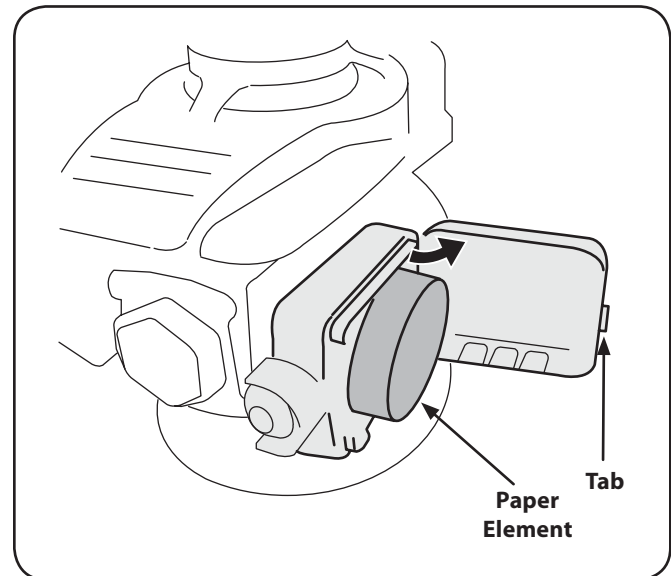

Figure 6-4
1. Remove the air filter cover by squeezing the front and back sides to release the tab at the front of the air filter cover. See Fig. 6-4. Clean foam element or replace when damaged.